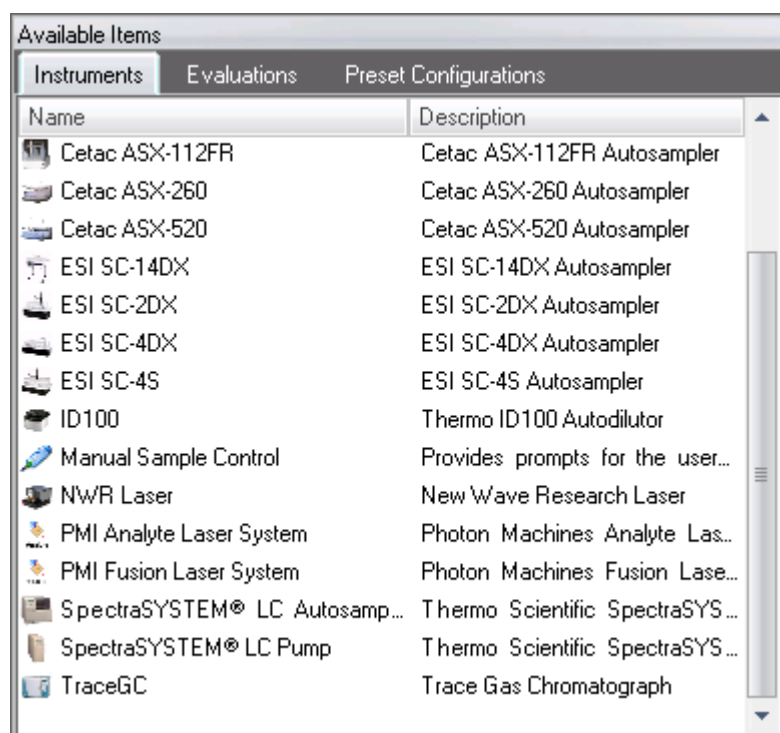

Figure 3-11. Available instruments and peripherals
6. Click the tab **Instruments** on the right, see Figure 3-11.